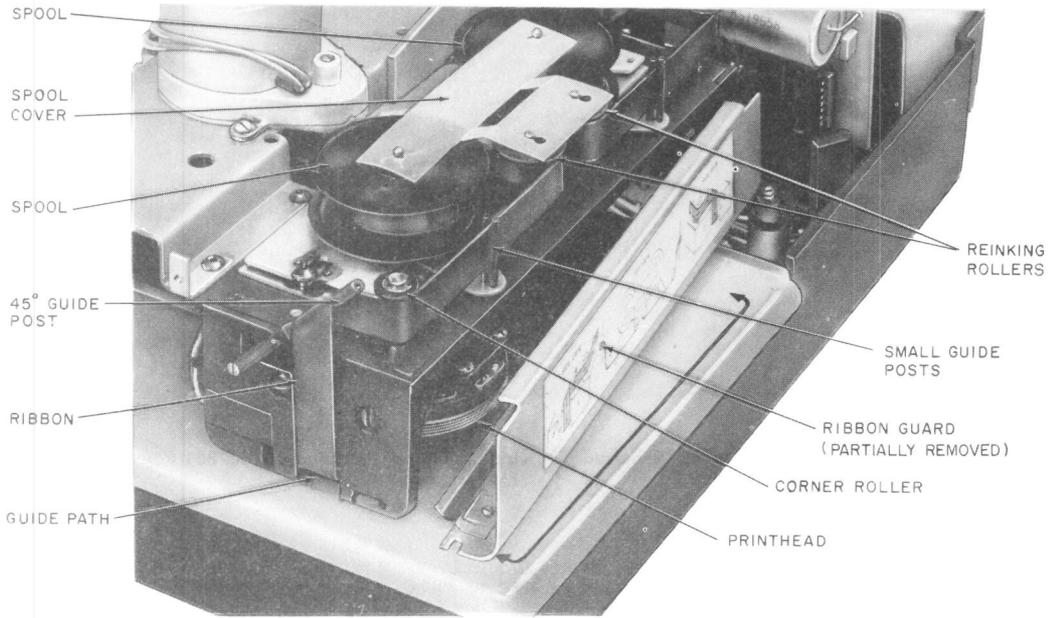
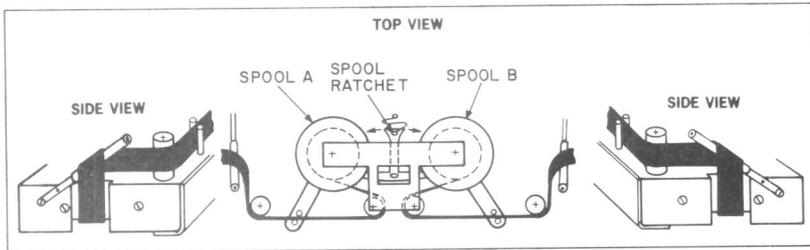

Fig. 11—Interior View of Printer With Housing Removed
Fig. 12—5000A or 5000A2 Printer Ribbon Path
5.10 To replace a printer ribbon (Fig. 11 and 12) by adding (D-180844 Kit of Parts), ordered separately.
- (7) Remove plastic spool cover (Fig. 11), and retain for later use.
- (8) Remove the two ribbon spools, ribbon, and two inking rollers and discard them.
- (9) From the D-180844 Kit of Parts, installed new spools, ribbon, and reinking rollers per the diagram on the ribbon guard or (Fig. 12). Insure that—
- (10) Tighten ribbon by winding on **free** turning spool, turn approximately four (4) full turns.
- (11) Carefully replace the ribbon guard (refer to Note, Step 6) and replace spool cover retained in Step 7.
- (12) Replace the shroud (5000A2 only), upper housing, and cover.